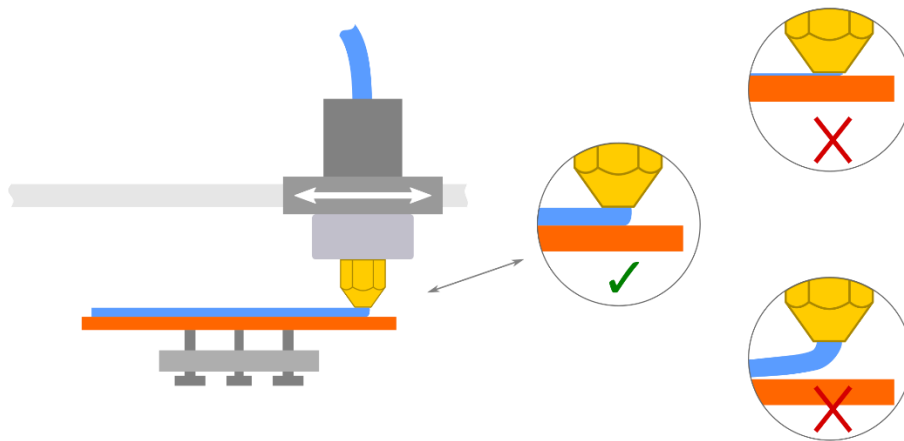

Fig 4.4: Build Gap
7. **Build Gap:** The build gap (as shown in Fig. 4.4) in a 3D printer is the distance between the print nozzle and the print bed surface. It is crucial for ensuring proper adhesion and print quality. Adjusting the build gap during bed leveling ensures the nozzle does not scrape the bed or that the print does not detach. It directly impacts the initial layer height and overall print quality.